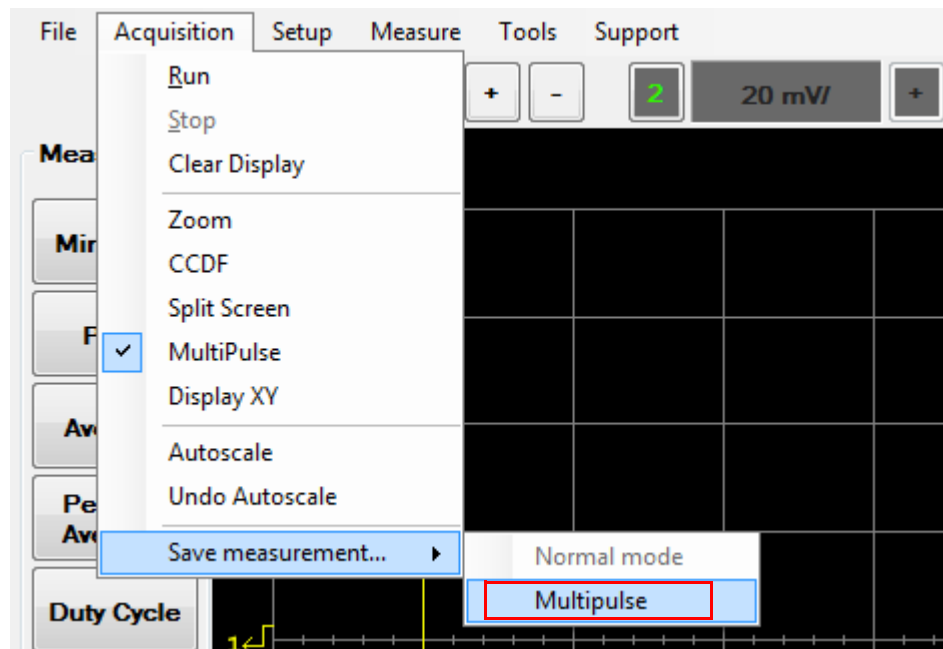

Figure 2-95 Save measurement... > Multipulse selection in the Acquisition menu
- 1 Select **Acquisition > Save measurement > Multipulse** on the toolbar to save the multipulse measurement data as a *.csv file as shown in Figure 2-95.